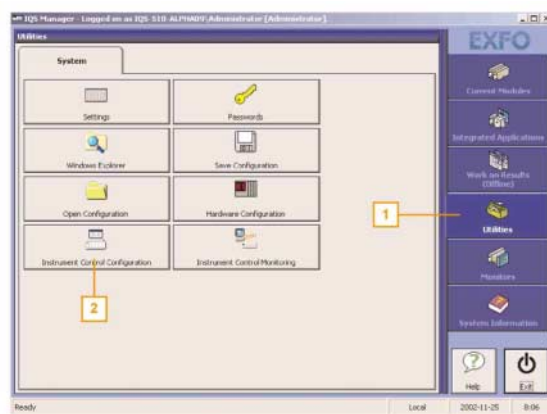

Figure 2. From the Utilities tab in IQS Manager, click on the Instrument Control Configuration button
3. From the Utilities tab of the IQS Manager application, set up the communication settings (see Figures 2 and 3).